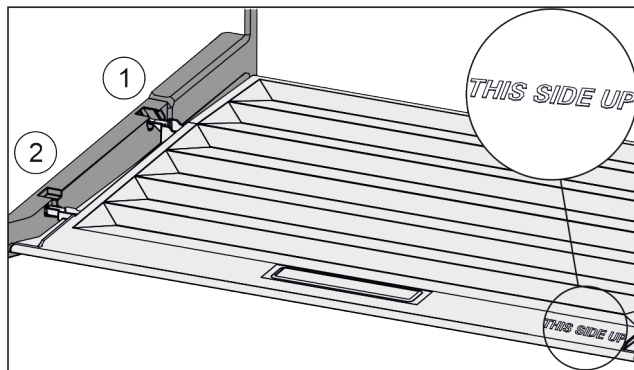

Fig. 46
- Insert the lip of the cover over the opening of the rear bracket Fig. 46 (1) and click into place Fig. 46 (2).